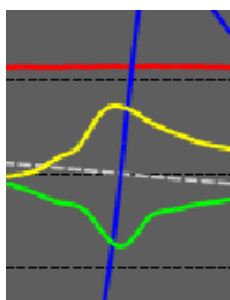

Figure 3-19 Dotted and blue line cross near horizontal axis
23. Move the Writing Module until both the gray dotted **and** the blue line cross the horizontal (0V) axis at the same point, see Figure 3-19.